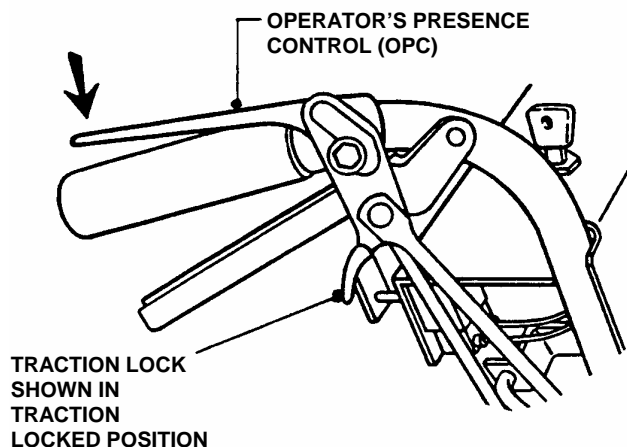

FIGURE 3.6
8. Depress Operator's Presence Control (OPC) against handle. See Figure 3.6.